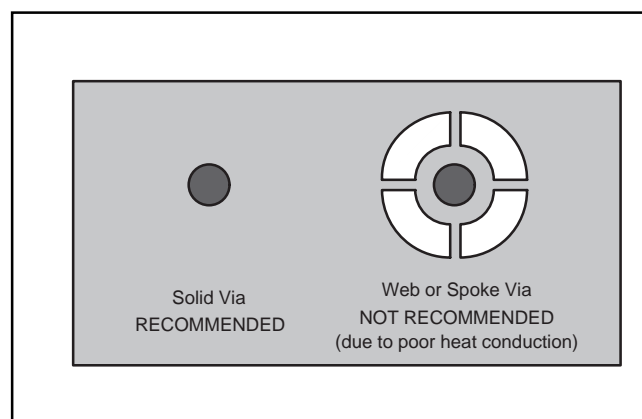

FIGURE 11. Via Connection.
6. When laying out these holes, do not use the typical web or spoke via connection methodology, as shown in Figure 11. Web connections have a high thermal resistance connection that is useful for slowing the heat transfer during soldering operations. This makes soldering the vias that have ground